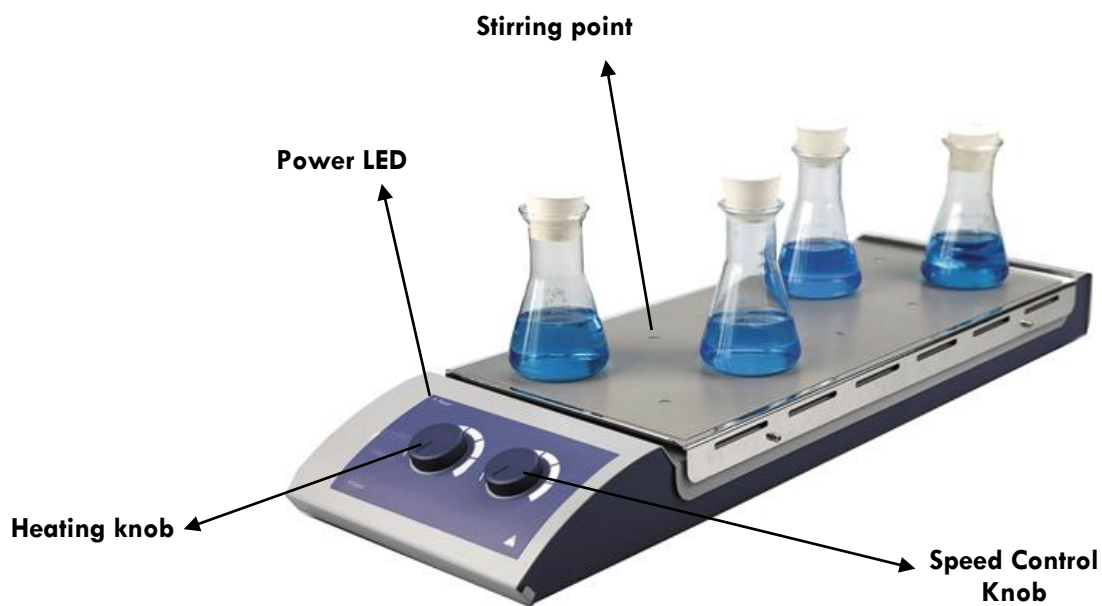

Figure 2
- Put the vessel on one of the stirring points (see figure 2).